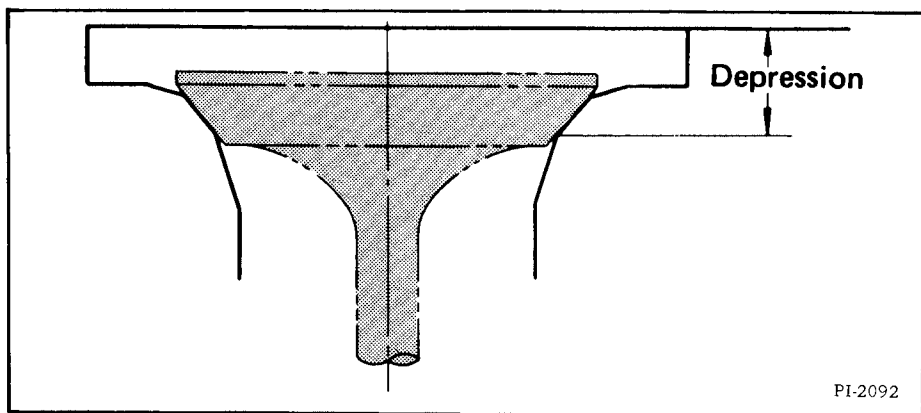

Fig. 8-23 Check for Correct Valve Seat Depth
- (3) If the amount of valve seat depth is over the value indication for need of servicing, replace the valve seat insert (Fig. 8-23).
- (4) Procedure for replacement of the valve seat insert.
- (5) Press the insert all the way into the bottom of the insert bore. Then grind the seat face.